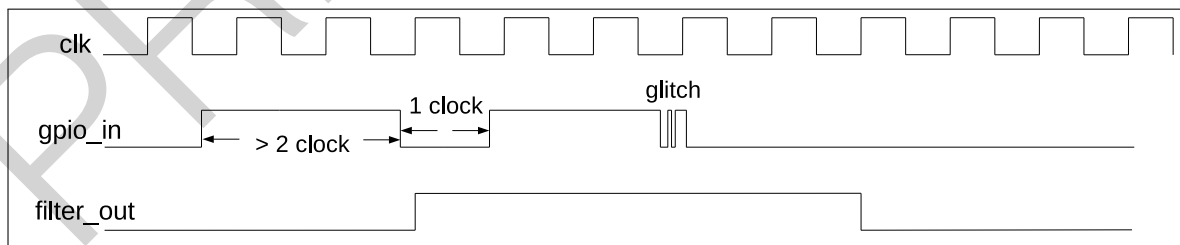

Figure 2-4. Filter Timing of GPIO Input Signals
2. Optionally enable the filter for pin input signals by setting the register `IO_MUX_FILTER_EN`. Only the signals with a valid width of more than two APB clock cycles can be sampled, see Figure 2-4.